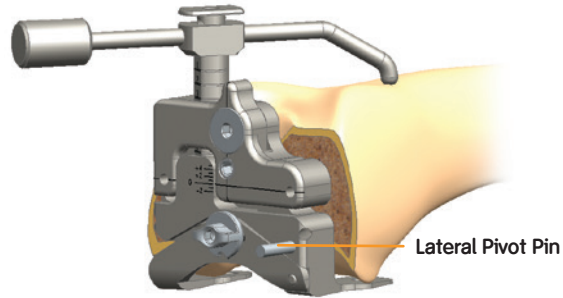

Figure 14
- 3 Position the femoral sizing guide flush against the distal femur, while ensuring the posterior paddles are contacting the underside of both posterior condyles. Once correct position of sizing guide is established, place a pin through lateral pivot pinhole located in the posterior/lateral corner on the face of the sizing guide (Figure 14).